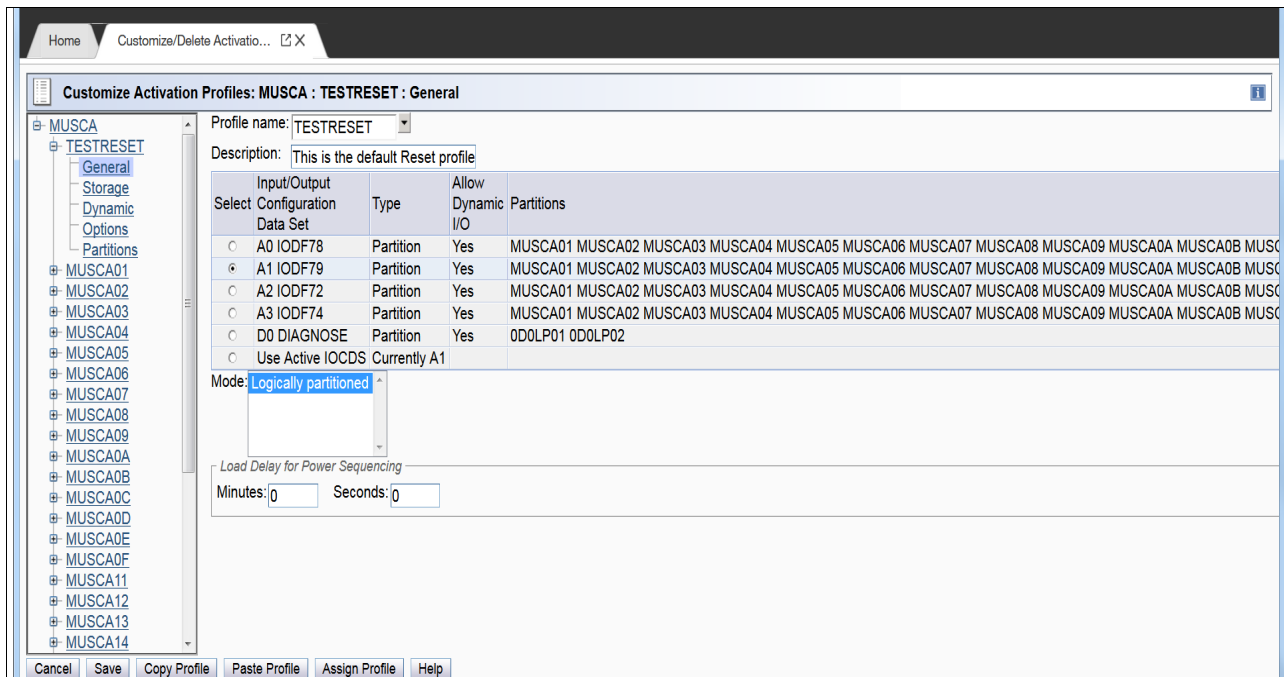

Figure 5-20 Reset and Image profile list: Selecting IOCDS
12. Note the list of LPARs that were retrieved and built based on the LPARs that were defined in the selected IOCDS. Click **Save** (see Figure 5-20).